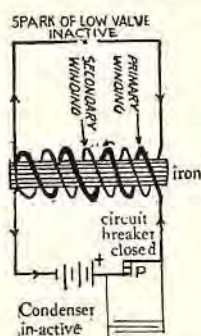
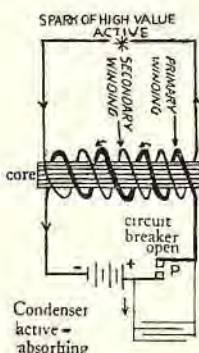
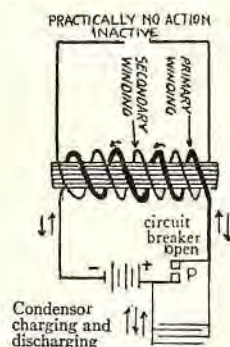

Fig. 5
Fig. 6
Fig. 7
are built up in a pile, somewhat as shown in Fig. 4. The even-numbered sheets of tinfoil, 2-4-6, etc., are connected, making one terminal (T) of the condenser. The odd-numbered sheets, 1-3-5, etc., are likewise connected, making the second terminal (T1) of the condenser. There is no connection between the two series of sheets. These connections are then made across the primary circuit at the contact points, as shown in Fig. 7.
With contact points (P) closed (Fig. 5), the current flows as shown by arrows through the primary winding. The condenser and secondary winding are not considered, as they are inactive. A current of low value is induced in the secondary in a direction opposite to that of the primary-current flow.
With contact points (P) open (Fig. 6), the condenser is charging. The spark of highest value is now at the secondary terminals. Note that when points (P) open, the magnetic field of lines-of-force collapse, and the induced current in the secondary is then flowing in the same direction as that in the primary. This spark is greatest just as the points open, because the condenser absorbs the self-induced current of the primary and thereby stops its flow, thus preventing it building up lines-of-force in the core. On the other hand, it neutralizes the core, and also eliminates any flow of current or of sparking at the contact points.
The condenser, after being charged, makes an oscillating discharge of high voltage and frequency through the primary winding and battery (Fig. 7). That is, the discharge is first in one direction and then in the other, the strength of this current gradually decreasing (owing to the resistance of the circuit) until it dies down to zero. This alternation or reversal of the current flow is very rapid, sometimes reversing from one direction to the other as many as two hundred thousand times every second, and its discharge can therefore be considered almost instantaneous.
The main purpose of the alternate discharges shown in Fig. 7 is to completely demagnetize or neutralize the iron core, thereby preparing the core for a repeated action of building-up again as shown in Fig. 5, and collapsing, as shown in Fig. 6.